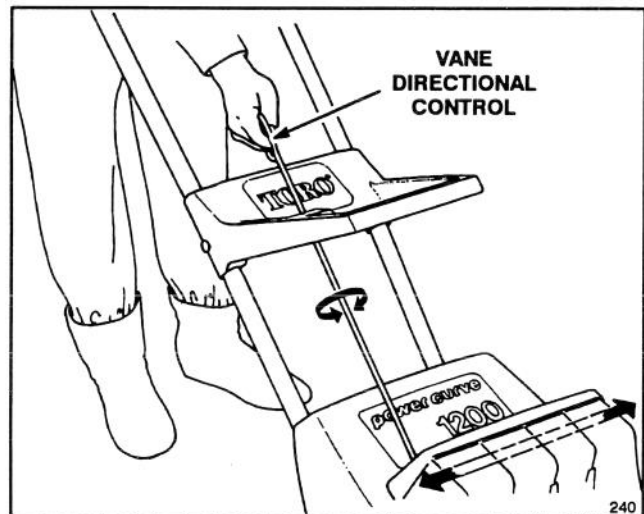

Figure 5
3. Direct the snow to left, right or straight ahead by twisting the vane directional control attached to the middle handle (Fig. 5).